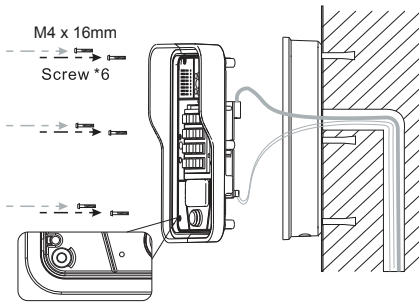

Figure 8
- A.** Use the 6 screws to tighten the main part (together with the rain shade) of intercom on the back panel as shown in Figure 8.